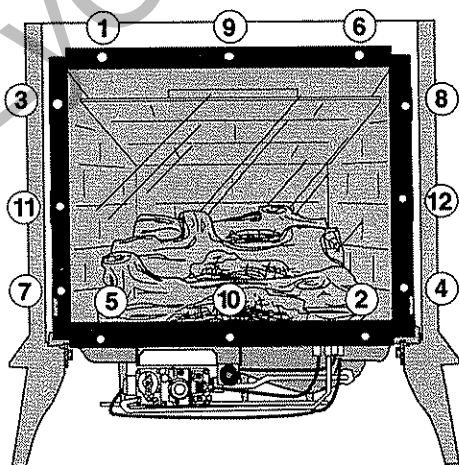

Figure 31. Tighten the screws in an alternating sequence.
3. To avoid uneven pressure on the glass when tightening the screws, tighten them alternately, one half-turn at a time, until they are all snug. Fig. 31.